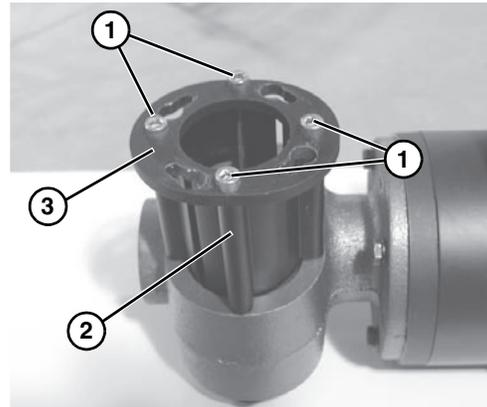

Figure 10
3. Remove the four (4) gearmotor coupling guard screws (**Figure 10, item 1**) and remove the gearmotor coupling guard (**Figure 10, item 2**) and mounting ring (**Figure 10, item 3**).
- Install gearmotor coupling guard (**Figure 10, item 2**) and mounting ring (**Figure 10, item 3**) to gearmotor, and tighten screws (**Figure 10, item 1**) to 110 in-lb (12 N-m).